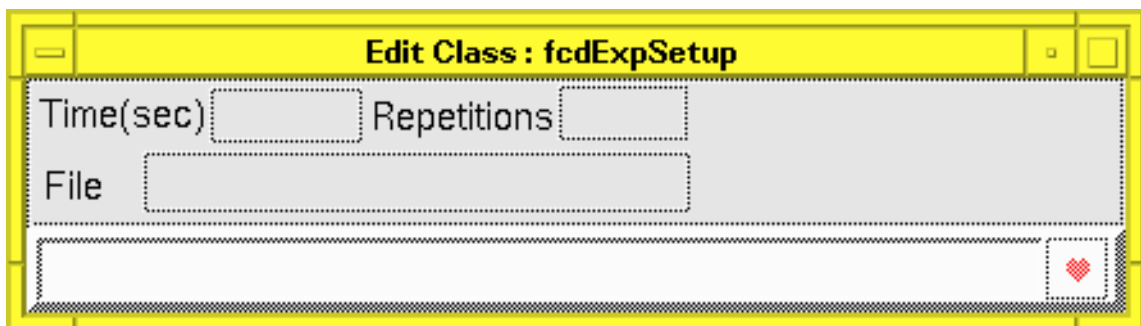

Fig.2 Exposure setup GUI class
1. **fcdExpStatus_uifClass**. It displays the status of an exposure. See also Fig.2 and manual page at section 4.4
2. **fcdExpSetup_uifClass**. It displays the main setup parameters of the most recently started exposure. See also Fig.2 and manual page at section 4.4
3. **fcdReadoutSetup_uifClass**. It displays the readout setup parameters of the most recently started exposure. See also Fig.2 and manual page at section 4.4